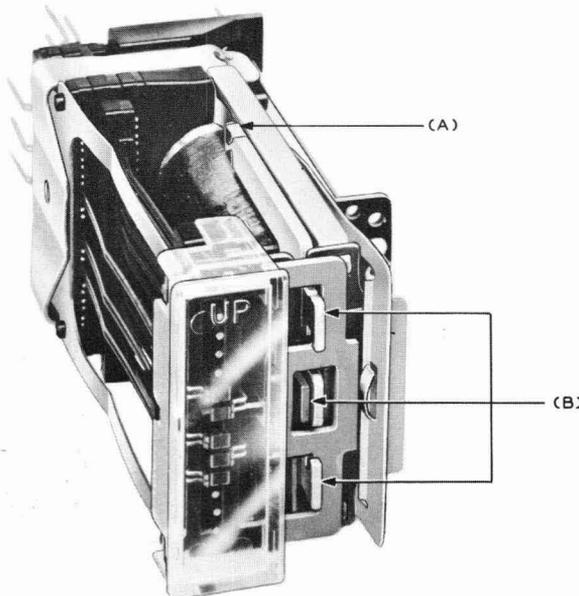

Fig. 1 — AJ-type Relay
1.02 *Armature Position:* Fig 1(A)—Armature hinge spring legs, where secured to armature, bear against outer core legs; relay operated and unoperated.
1.03 *Balancing Spring Tension:* Fig. 1(B)—Card bears against associated surfaces on armature and armature bears against backstop; relay unoperated.